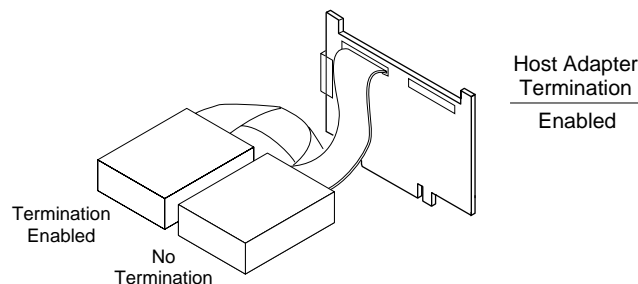

Figure 2-11. Internal Devices on SCSI Channel A
- Leave the host adapter termination at the default setting (*Enabled*) if you attach SCSI devices to only one of the two Channel A connectors, as shown in Figure 2-11. Always connect the host adapter to the end of the internal cable.